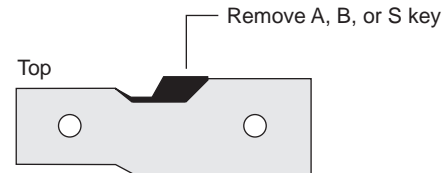

Figure D-3 Single Mode Connector Housing
- 1 Remove the A, B, or S key from the connector housing. See Figure D-3.